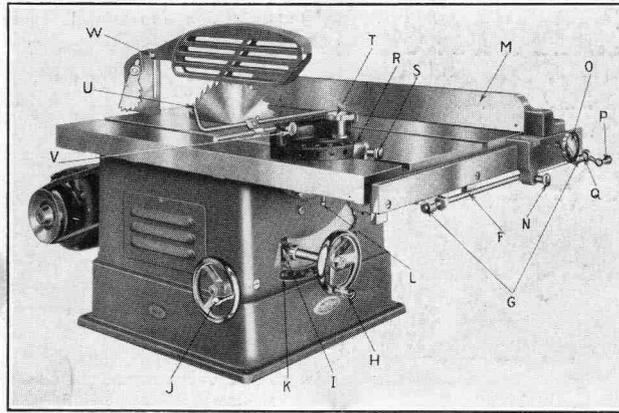

FIG. 1
Clean all units carefully. Best results will be obtained by following this order in assembling: (Refer to Fig. 1.) See NOTE below before making any adjustments — if required, table adjustment should be made first.
5. If end play develops in the elevation shaft controlled by hand-wheel "H" Fig. 1, loosen the set screw in the collar on the inside then bring collar snugly against face of dial plate and retighten very securely.
- F. Feed screw in front of table (see Fig. 1).
- G. Two bearing brackets holding Acme Screw (Fig. 1).